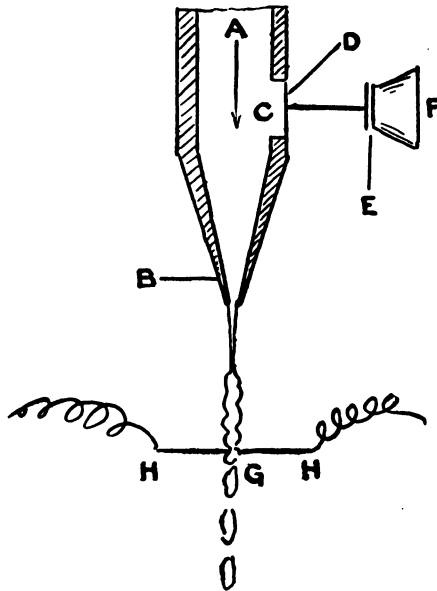

Fig. 5
this peculiarity was grasped by Ruhmer, who used the arc to transmit speech (Fig. 5).
A section of a Majorana transmitter is shown in Fig. 5. It consists of a tube or receptacle (A) in which water or some other liquid flows downward, as indicated by the arrow, through the narrow tube B, from the extremity of which it issues in a tiny jet. This tube is of unyielding and inelastic material, but at the spot C there is an opening covered with a thin, elastic diaphragm.